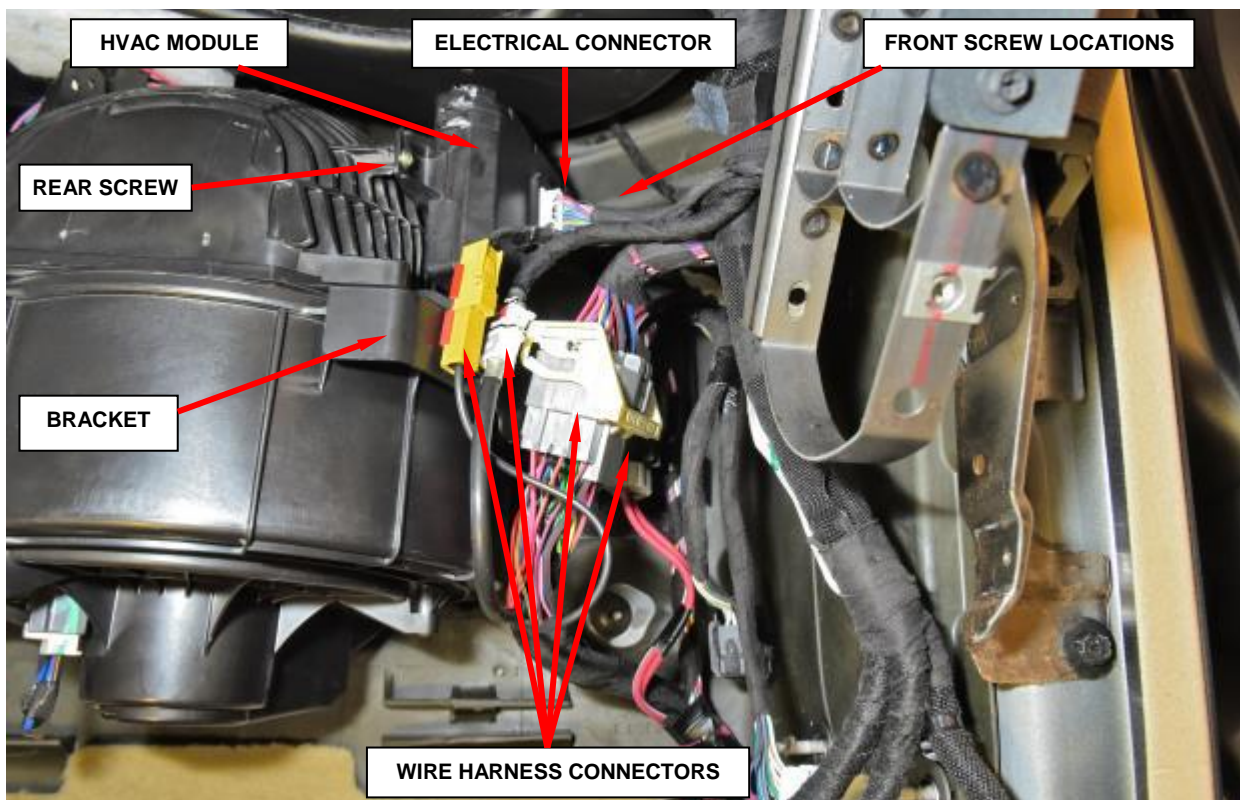

Figure 38 – HVAC Module
7. Disconnect the electrical connector from the HVAC module, located on the air inlet housing (Figure 38).
8. Release the wire harness connectors from the bracket (Figure 38).
9. Loosen the two screws that secure the front of the HVAC module to the air inlet housing (Figure 38).
10. Remove the one screw that secures the rear of the HVAC module to the air inlet housing (Figure 38).